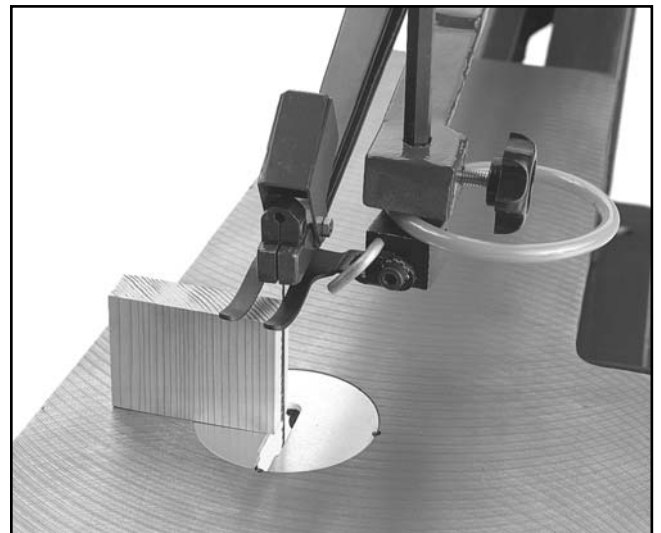

Figure 6.
3. Place block against Blade. If there is any space between the block and the blade, the table is not at 90°. Adjust the table to close this space. **Figure 6.**